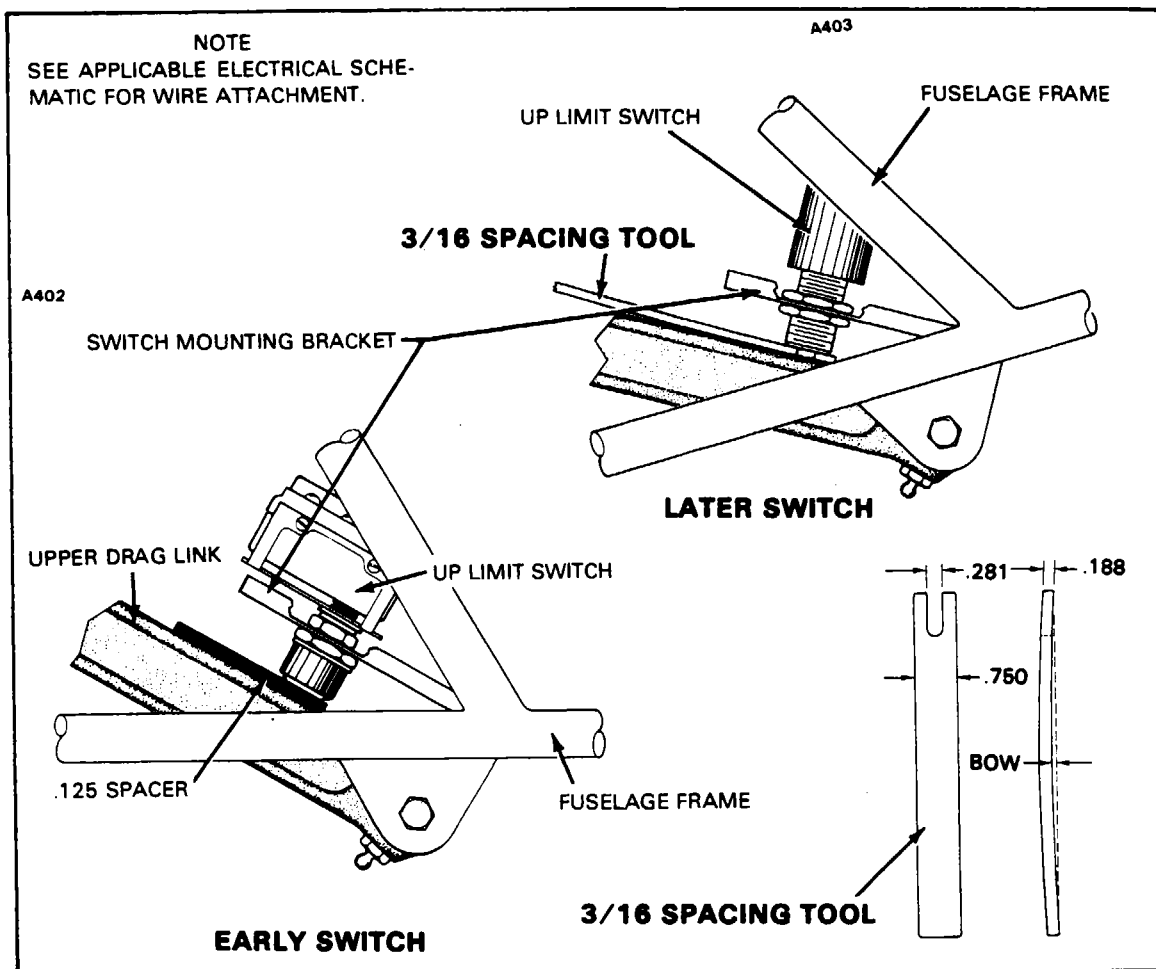

Figure 7-17. Adjustment of Nose Gear Up Limit Switch
7-42. ADJUSTMENT OF NOSE GEAR UP LIMIT SWITCH. (Refer to Figure 7-17.) The nose gear up limit switch, located just above the upper drag link assembly and aft of the timer check valve on PA-23-250 (six place), Serial Nos. 27-2505 and up, may be adjusted by the following procedure:
- On the models with the early switches, adjust the switch by loosening the locknut and the switch mounting nut. Then rotate the nuts in whichever direction provides the necessary clearance when a .125 inch spacer is placed between the upper drag link and the switch actuator. On models with the later switches, rest tool on switch actuator button between the upper drag link and the switch actuator. Adjust in same manner as above. For configuration of tool, refer to Figure 7-17.
b. Rest tool on switch actuator button between the latch and the switch actuator. Adjust the switch by loosening the locknut and the switch mounting nut. Then rotate the nuts in whichever direction provides the necessary clearance for snug fitting of tool. For configuration of tool, refer to Figure 7-17.